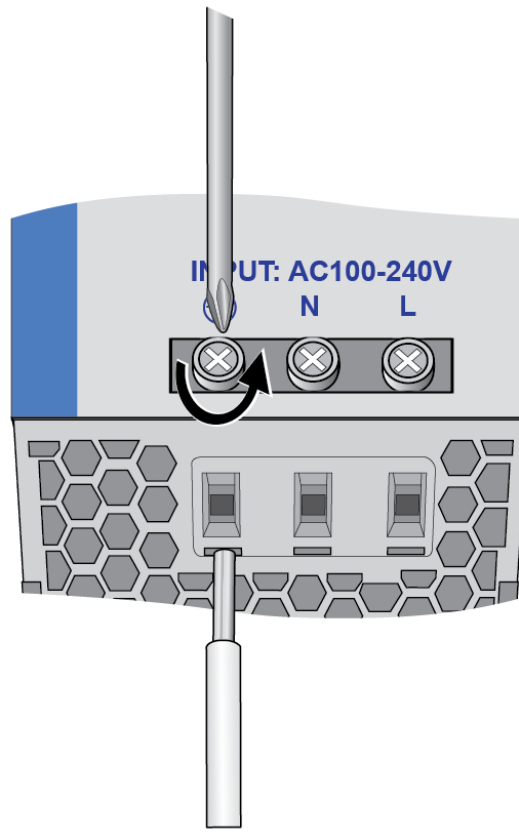

Figure 12. Installing the Ground Wire
2. Loosen the ground screw on the front panel of the power supply and insert the ground wire in the connector on the bottom panel. Refer to Figure 12 on page 51.